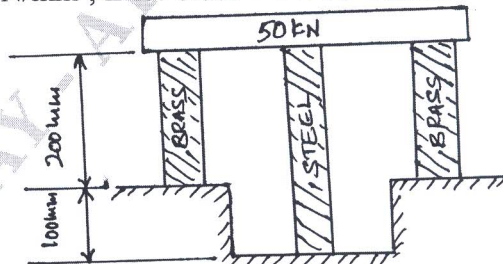

Fig.Q.2(c)
- c. A steel rod of cross-sectional area  $1600\text{mm}^2$  and two brass rods each of cross-sectional area of  $1000\text{mm}^2$  together support a load of 50kN as shown in Fig.Q.2(c). Find the stresses in the rods. E for steel =  $2 \times 10^5\text{N/mm}^2$ , E for brass =  $1 \times 10^5\text{N/mm}^2$ . (08 Marks)